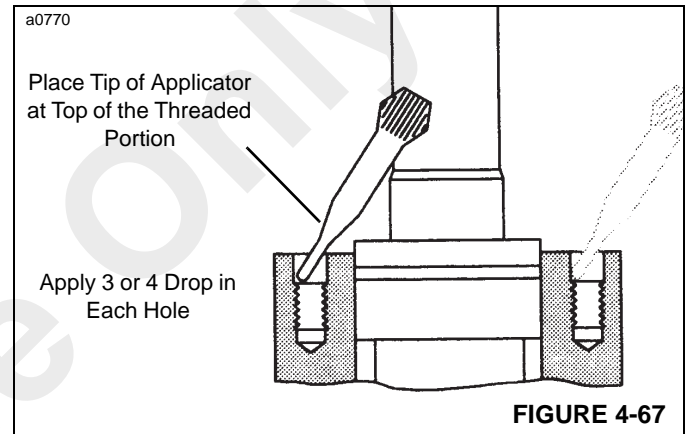

FIGURE 4-67
9. Apply 3 or 4 drops of Loctite sealant at the top of the threads for each of the four holes in the housing (see Figure 4-67). Do not allow parts with Loctite to come in contact with any metal parts other than those for assembly. Wipe off excess Loctite from housing face, using a non-petroleum base solvent.